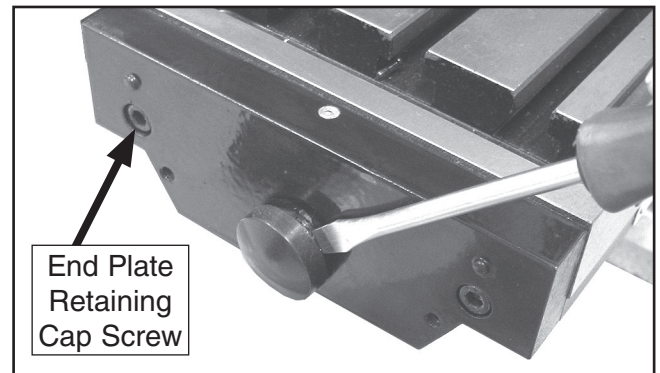

Figure 6. Cap removal.
9. Using a standard screwdriver, pry the leadscrew dust cap off (**Figure 6**).
10. Use a 5mm hex wrench, remove the two end plate retaining cap screws (**Figure 6**).